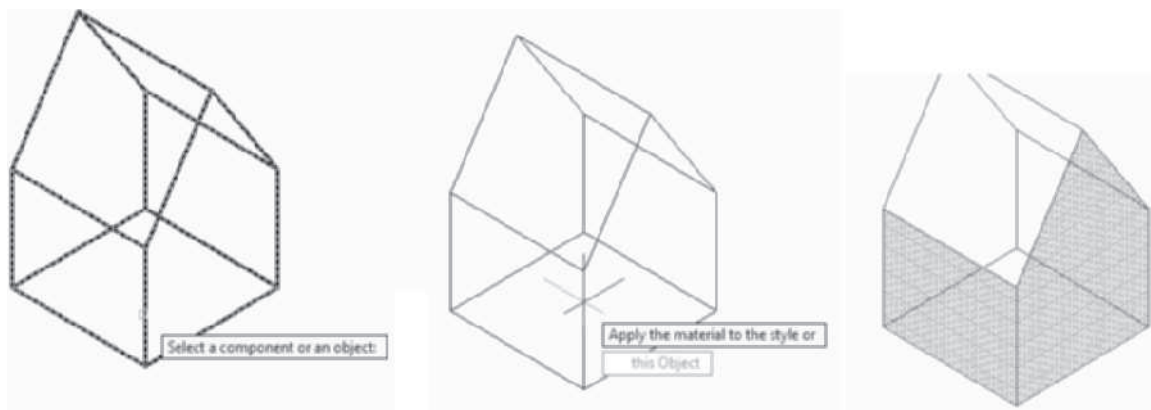

FIGURE 4.60 Mass Element Style Properties dialog box
2. Respond to the command prompt; select a component or an object and select the mass element as shown in Figure 4.60. Press ENTER to apply the material to the style of the mass element.